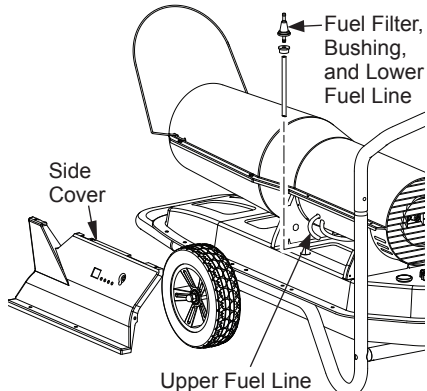

Figure 14 - Fuel Filter Removal
3. Pull upper fuel line off fuel filter neck (see Figure 14, page 14).
4. Carefully pry bushing, fuel filter, and lower fuel line out of fuel tank (see Figure 14, page 14).
3. Remove the control side cover with a 5/16" nut driver. On 160, 175 and 220 models, remove two wheel support bolts and nuts with a Phillips screwdriver and an adjustable wrench. Remove side cover (see Figure 14).